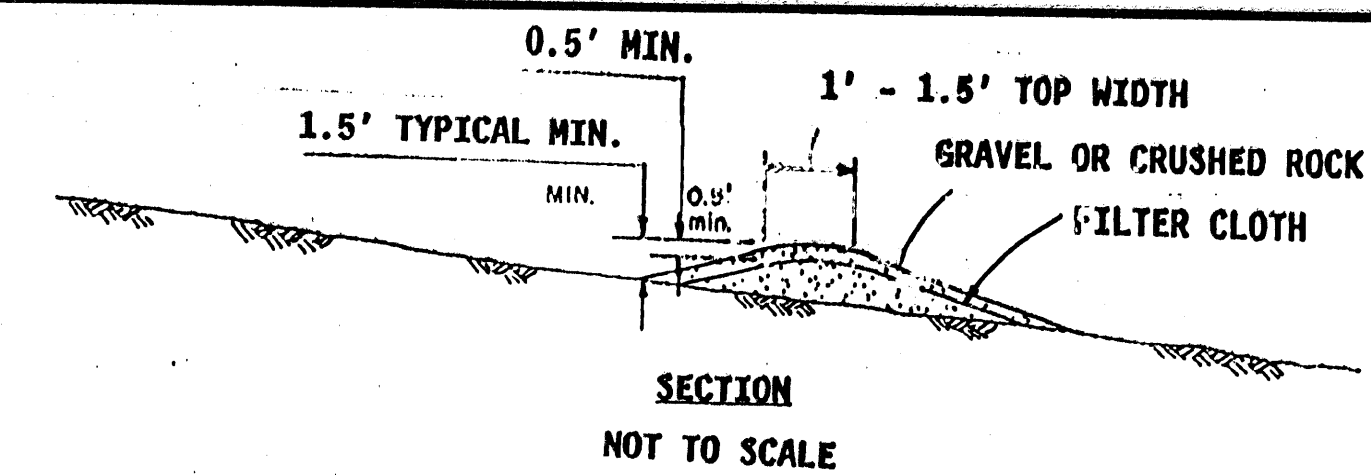

FIGURE 5 TYPICAL FILTER BEAM
4. Continuous filter beams may be used around construction sites or individual beams may be located at discharge points in impermeable barriers such as shown in Figure 5.